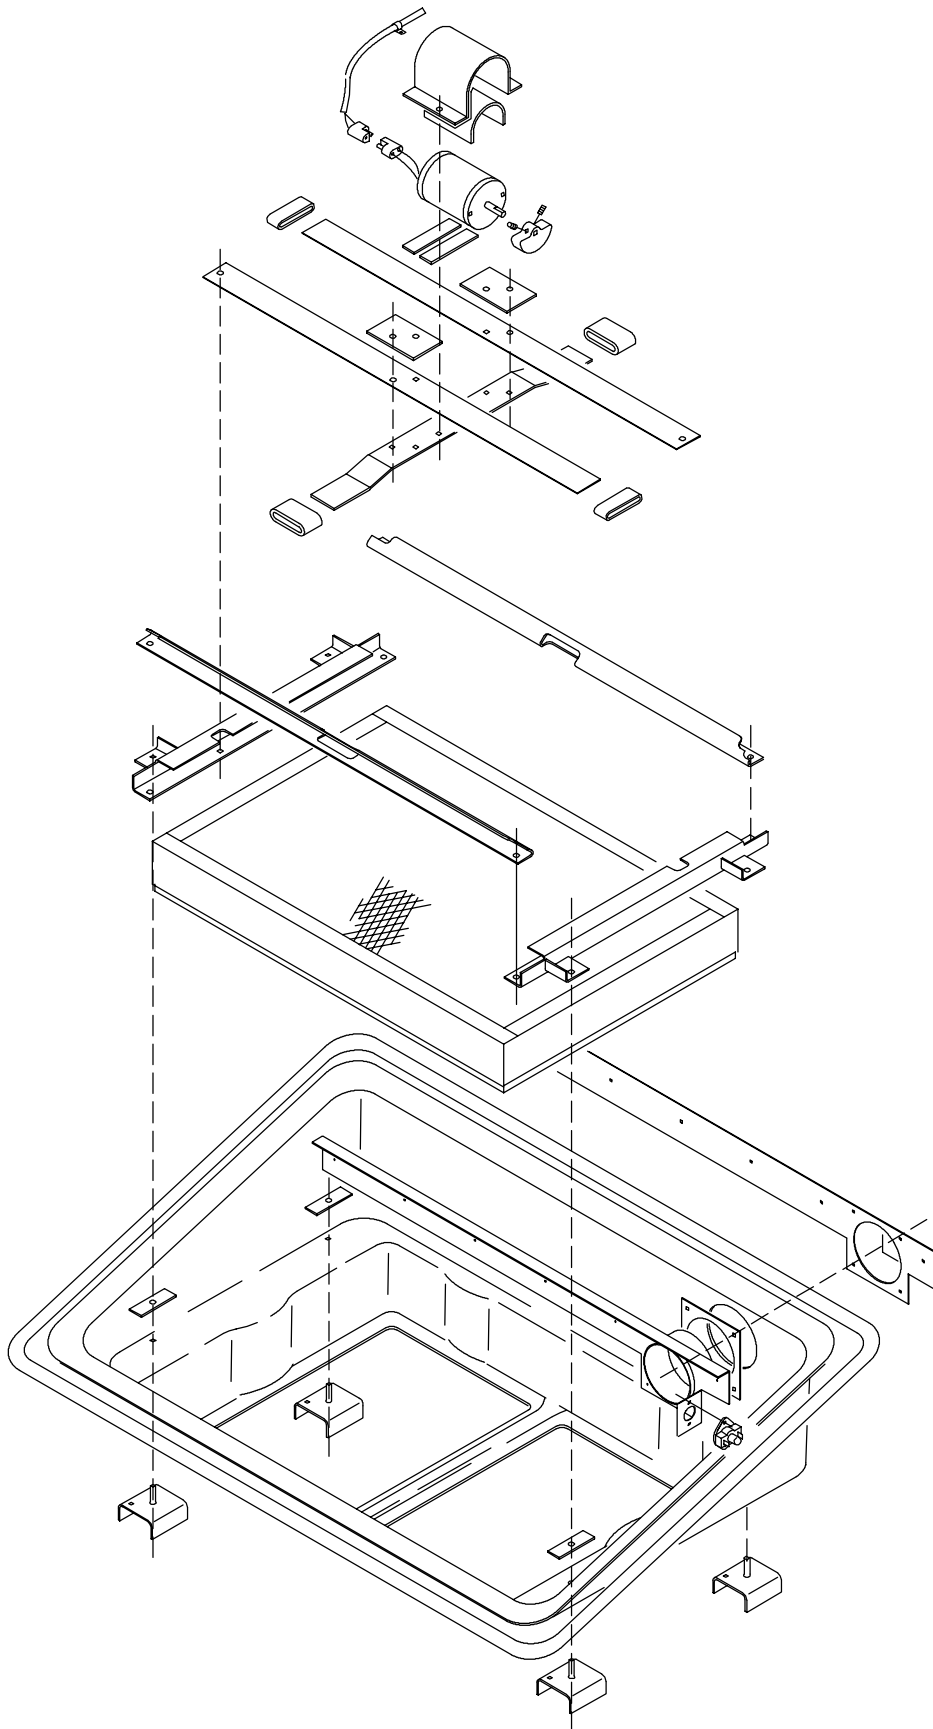

FIG. 1 - Parts To Remove And Discard
(Refer to FIG. 1 thru 7)
2. Disconnect the wires leading to the thermo sentry. (Refer to FIG.1)
3. Un-plug the hopper harness from the shaker motor. (Refer to FIG.1)
5. Pull the existing filter tray assembly out of the machine and discard the parts indicated in FIG. 1. (Refer to FIG.1)